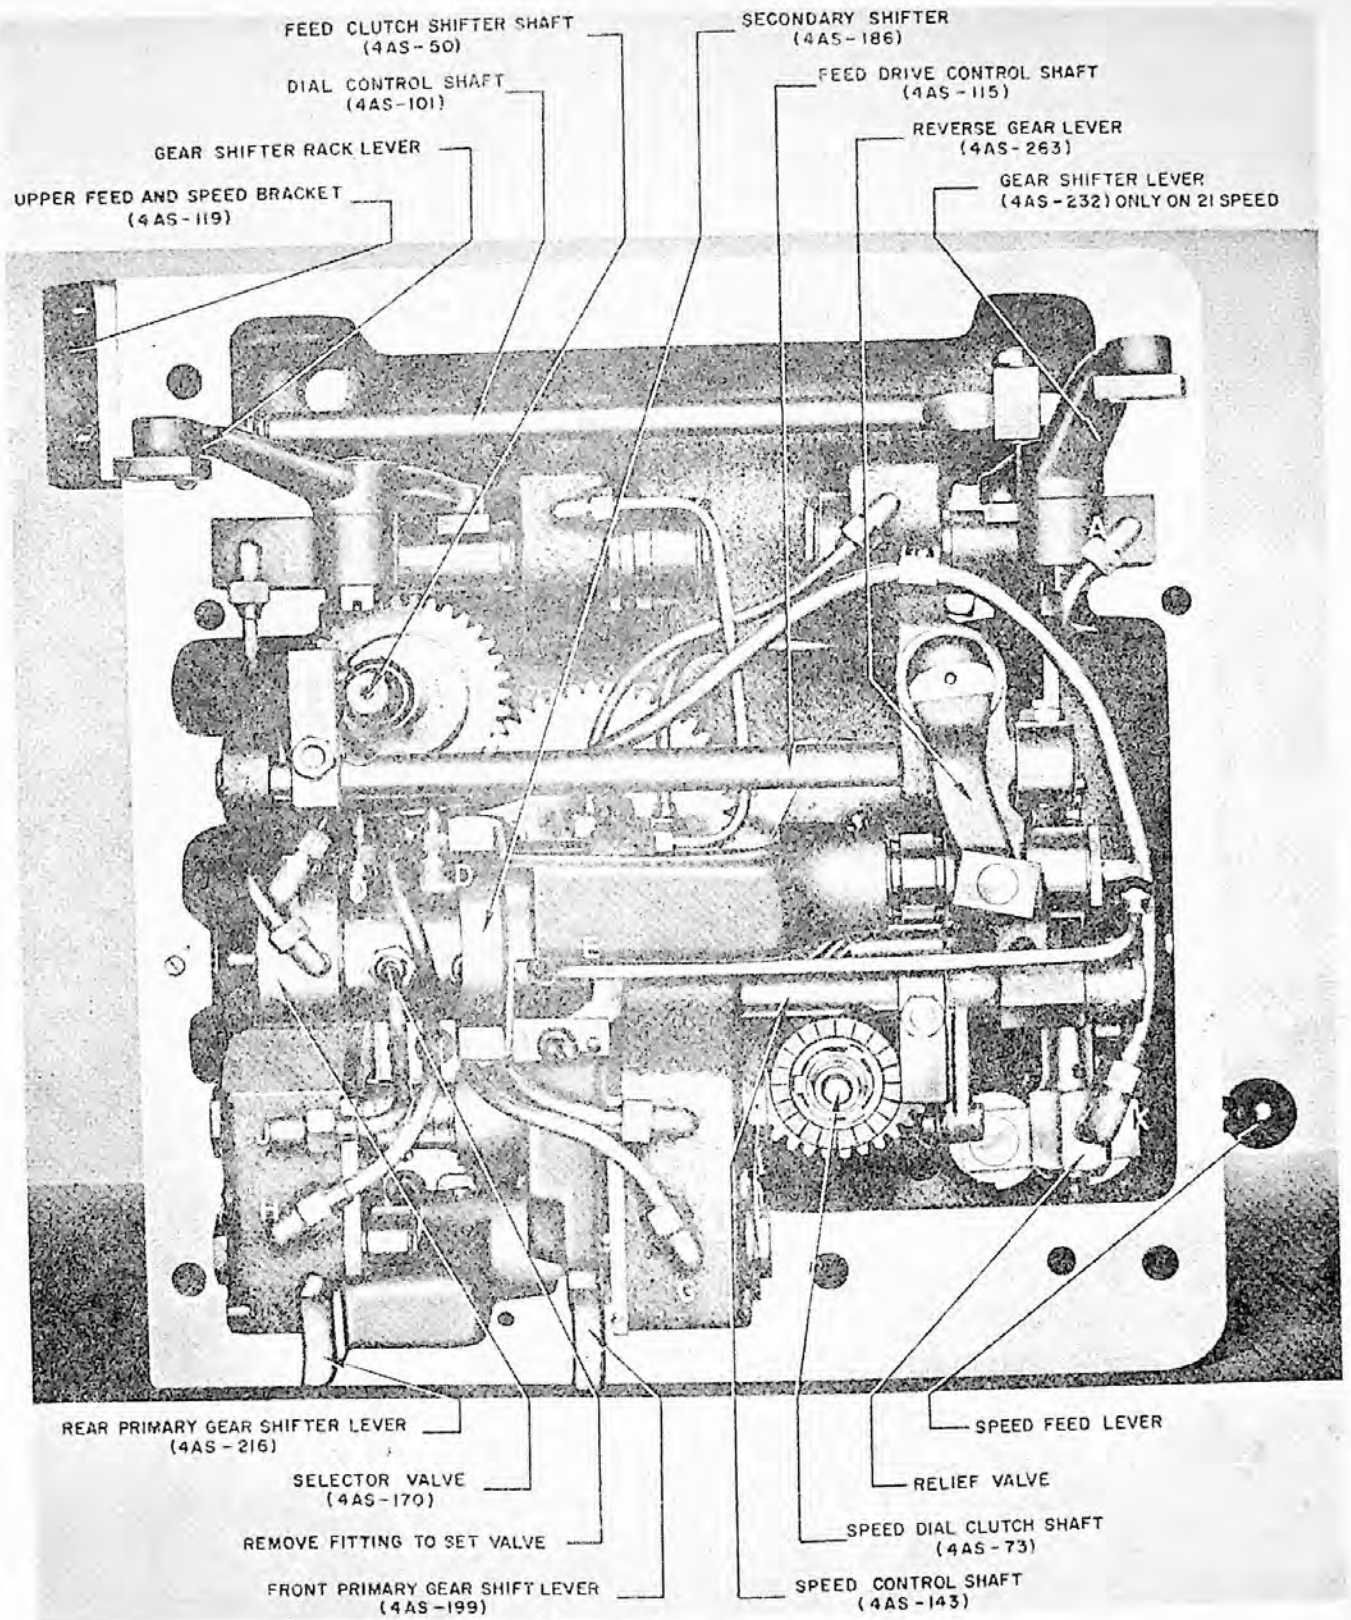

FIGURE 151A
To Remove and Dismantle Gear Shifter Bracket (4AS-17) (See Figure 151A and pages 12-21)
5. Remove all items listed in paragraph 3 above. Disconnect tubing K and L (Figure 151A), set screw (52), back off set screw (53) and remove shaft (50) and dial drive gear (54). (When assembling, bottom set screw (53) then back off ¼ turn to be sure gear (54) can turn on shaft.
6. Remove speed calculator (97), align four holes through feed (85) and speed (90) dial flanges so four cap screws (78) can be removed. Tap dial support bracket (77) assembly out of shifter bracket. Drive stud (55 or 57) into bracket and remove intermediate dial gear (59). (In 16 speed brackets the intermediate stud eccentric bushing allows for proper spacing of gears (54) and (59) before stud is driven home).
Disconnect all copper tubing. Remove it without bending to minimize difficulties when reassembling. Assembly of tubes is facilitated if they are connected in order A, B, C, D, E, etc. as labeled on Figure 151A. As each tube is connected the selector valve (174) should be rotated to make certain that it stays free.